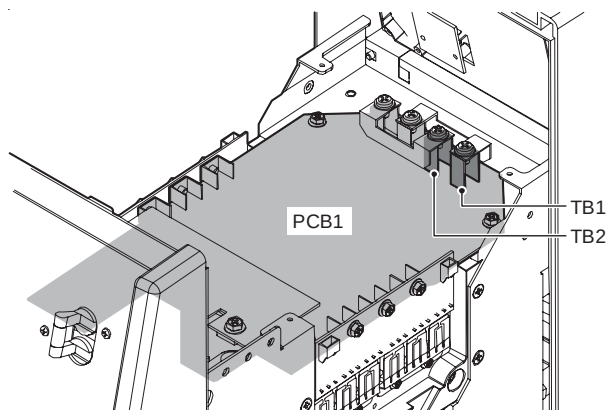

Figure 6-9: The check points TB1(P) and TB2(N)
6. Verify bus voltage (the voltage of the electrolytic capacitor after rectification) using a DC voltmeter. (The capability of the voltmeter should be more than 1000VDC.) Using a DC voltmeter, measure between the points TB1 (P) [+] and TB2 (N) [-] on PCB1 (WK-5477) Points TB1 (P) and TB2 (N) can be found on the parts side of PCB1. See Figure 6-9. The measured voltage should be approximately 1.4 times larger than input voltage measured in #1 above. Replace diode D1 if the calculated measurement is not within the corresponding range (260 ~ 360 / 580 ~ 720 VDC).